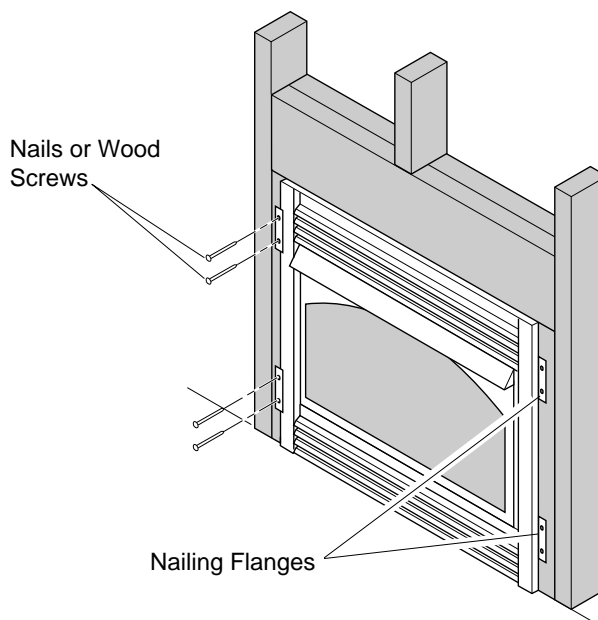

Figure 14 - Attaching Fireplace to Wall Studs
8. Attach fireplace to wall studs using nails or wood screws through holes in nailing flange (see Figure 14).